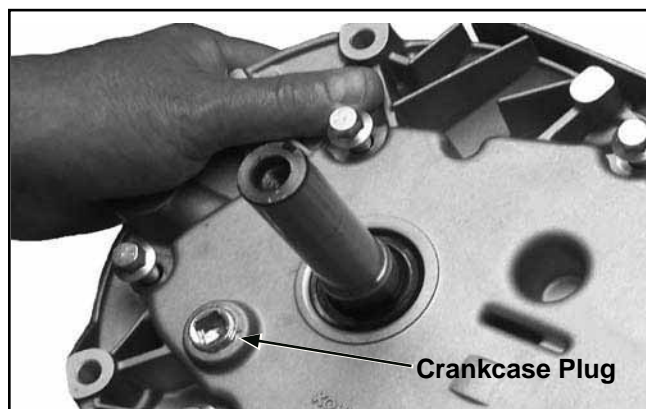

Figure 8-2. Crankcase Plug.
2. Remove the crankcase plug on the bottom of the engine. See Figure 8-2.